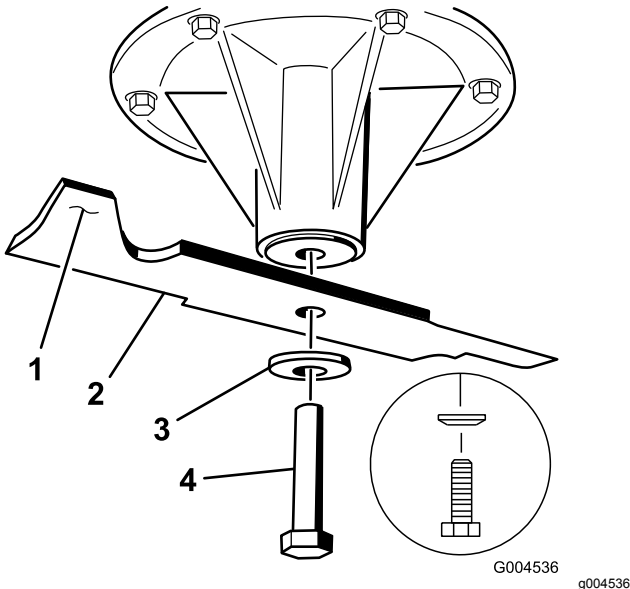

Figure 89
2. Remove the blade bolt, curved washer, and blade from the spindle shaft (Figure 89).